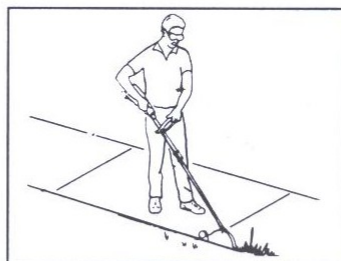

Fig. 7
3. Typical operating position. Edge along paths, driveways and gardens (Fig. 7).